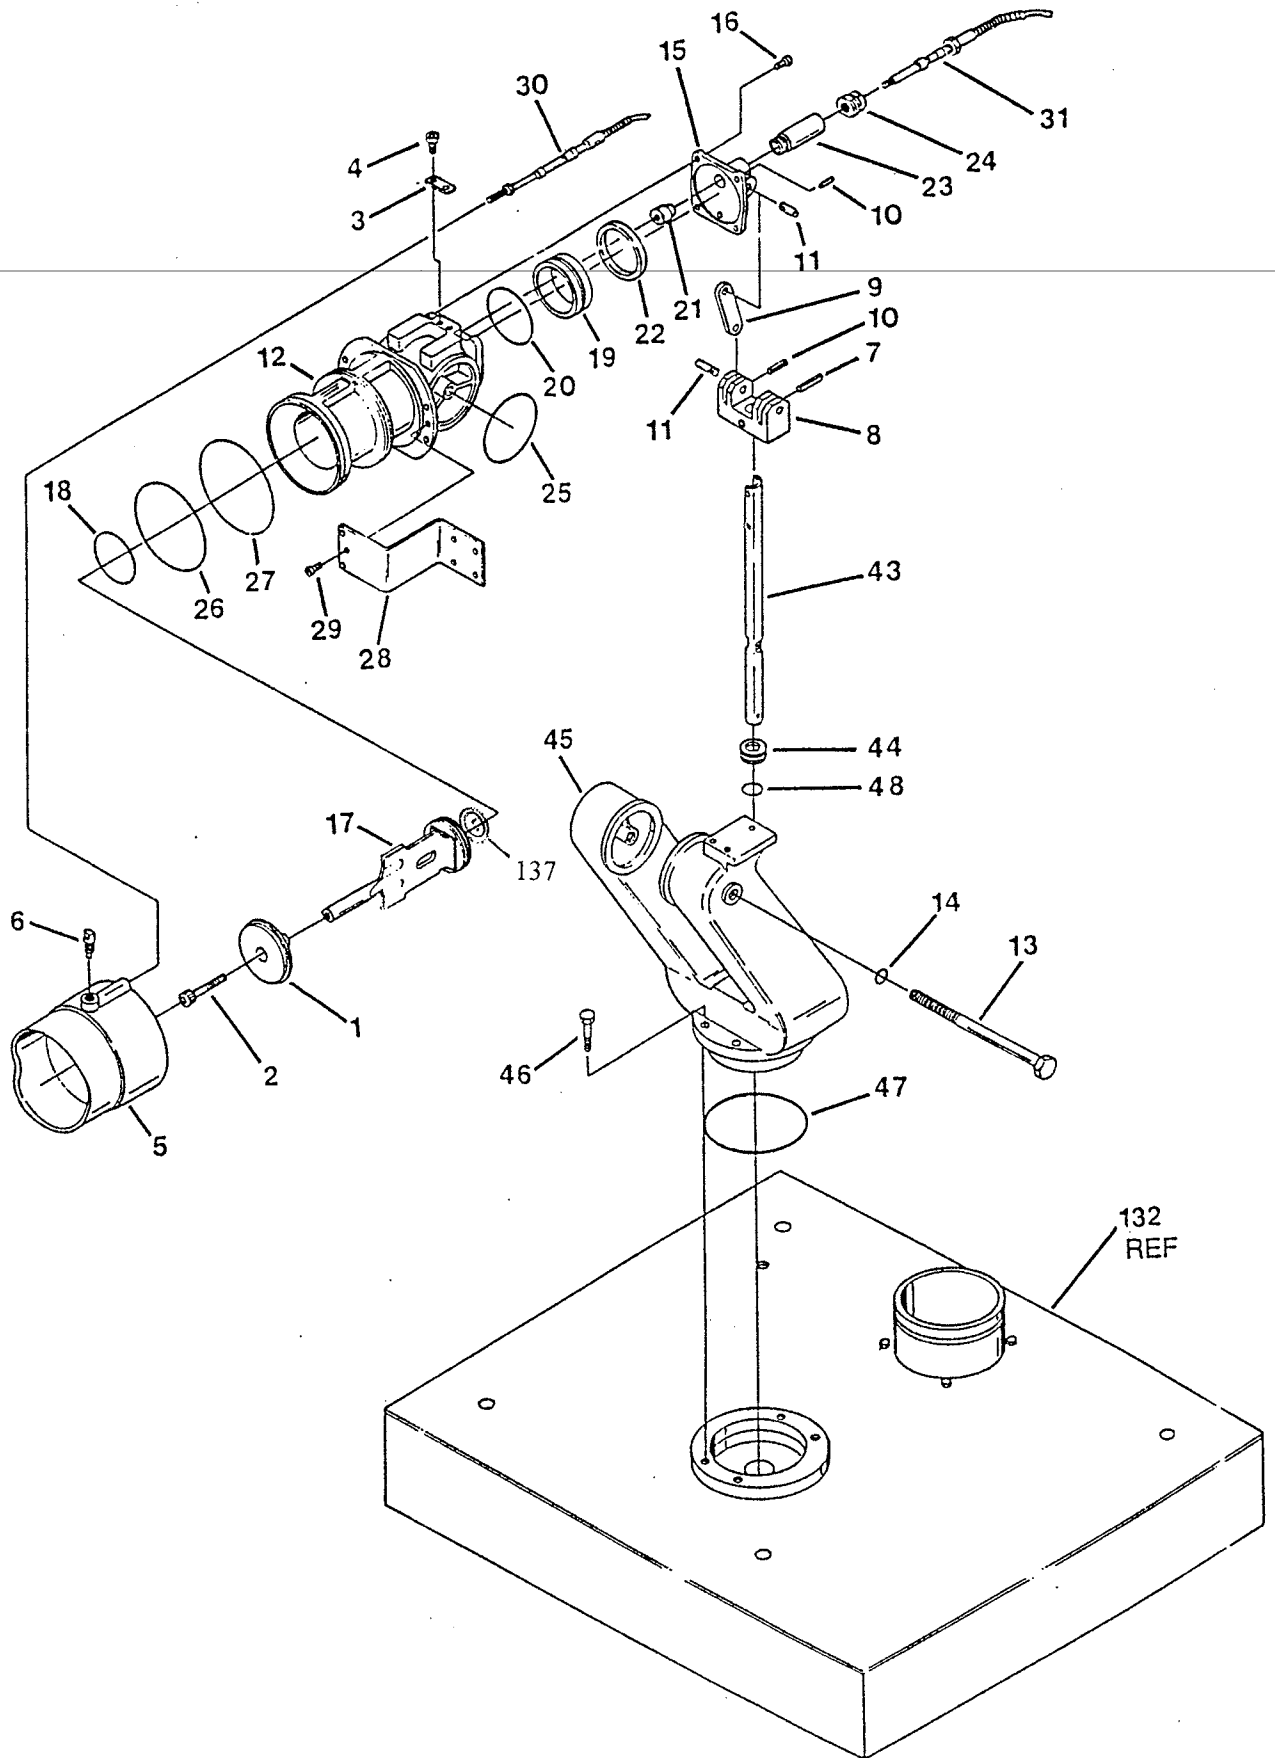

Figure 2-3. Roof Turret Assembly (Sheet 1).
- (b) Drain fire truck air system and disconnect air lines from override valve assembly (62, Figure 2-3).
- (c) Disconnect truck drain hose from drain valve assembly (97, Figure 2-3).
- (d) Disconnect wiring harness (75, Figure 2-3) and remove cables from roof turret mounting plate (paragraph 2-28).
- (2) Perform the following steps in the area above the truck cab.
- (c) Remove roof turret supply line and seal at victaulic inlet (103, Figure 2-3).
- (e) Remove 22 screws (2), nuts (3) and washers (4) attaching turret to cab roof. Discard gasket (10).
- (f) Install four eyebolts in tapped holes at each corner of roof turret (1).